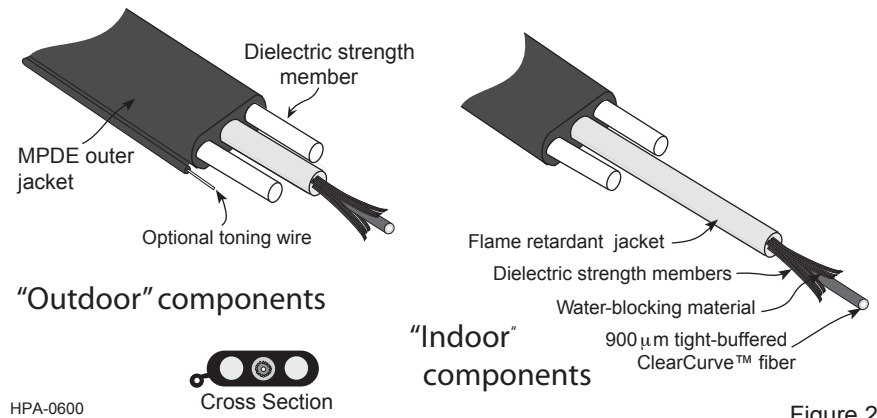

Figure 2
Both jumpers and pigtails may be ordered with an optional toning wire which is jacketed outside of the standard optical cable envelope (Figure 2)
**4.1** For the outdoor duct or aerial stage of placing an SST Indoor-Outdoor Drop cable jumper, pull the grip which contains the interior-rated cable and SC/APC connector from the Multiport terminal towards the dwelling's Optical Network Terminal (ONT). To do so, attach a pull-line to the eye of the pulling grip (Figure 2).